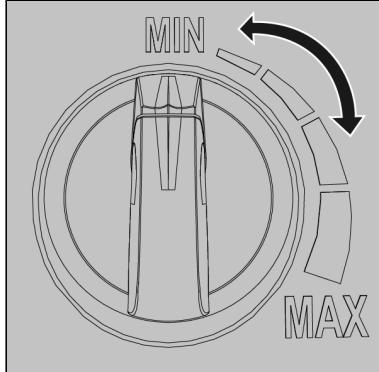

Figure 39.
5. Use the cleaning agent regulator (Figure 39) on the front of the device to control the amount of additional cleaning agent.